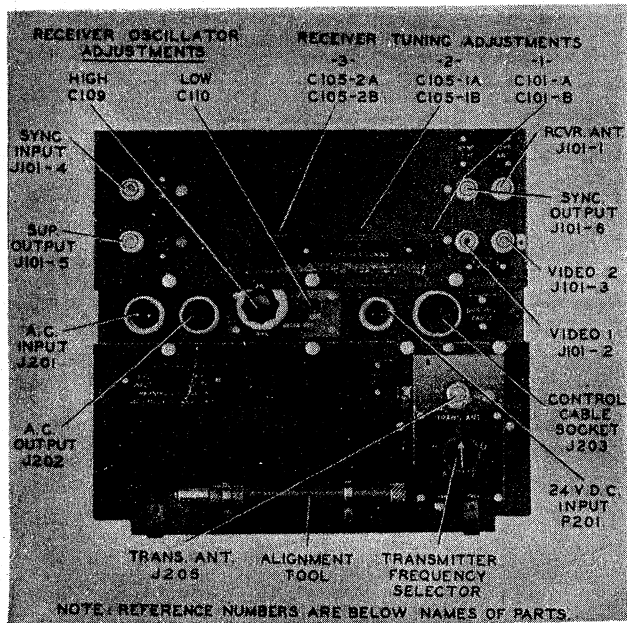

Figure 1-5. Radio Receiver and Transmitter ★RT-1A/APN-2—Showing Controls
(3) Three receiver r-f tuning adjustments are accessible through windows in the case of the receiver marked "RECEIVER TUNING" "1", "2", and "3". The local oscillator of the receiver is tuned by a slotted shaft accessible through an opening marked "RCVR OSC." "LOW", and a pointer-knob marked "RCVR OSC" "HIGH". The knob may be removed and a remote receiver-tuning arrangement substituted when it is necessary to mount the receiver-transmitter in a place remote from the operator. A knob mounted on a panel marked "TRANS. FREQ." provides for selection of any one of the five pre-set transmitting frequencies. A window below this knob exposes a slotted shaft for making tuning adjustments for the five transmitting frequencies. See figure 1-5 for identification of these controls.